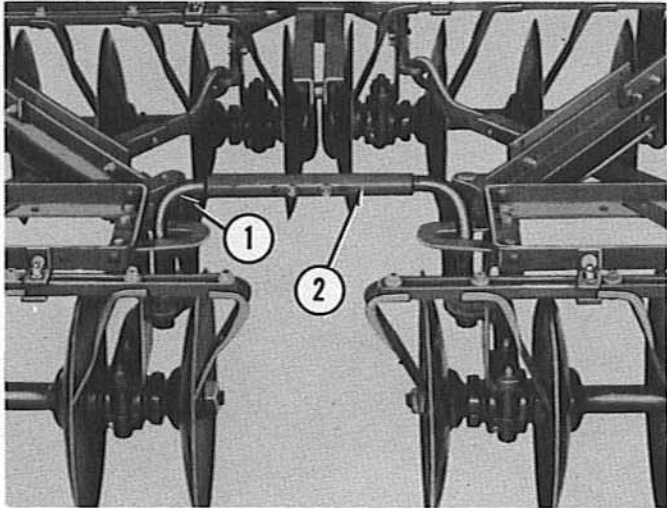

Figure 6
- b. Insert the tie rod (1), Figure 6, in the tie rod sleeve (2) and secure with the two bolts, lockwashers and nuts provided.
**Tie Rod:** If ridging occurs when operating at increased speeds in very loose soil, set the tie rod (1), Figure 6, in the extended position to increase the distance between the gangs.